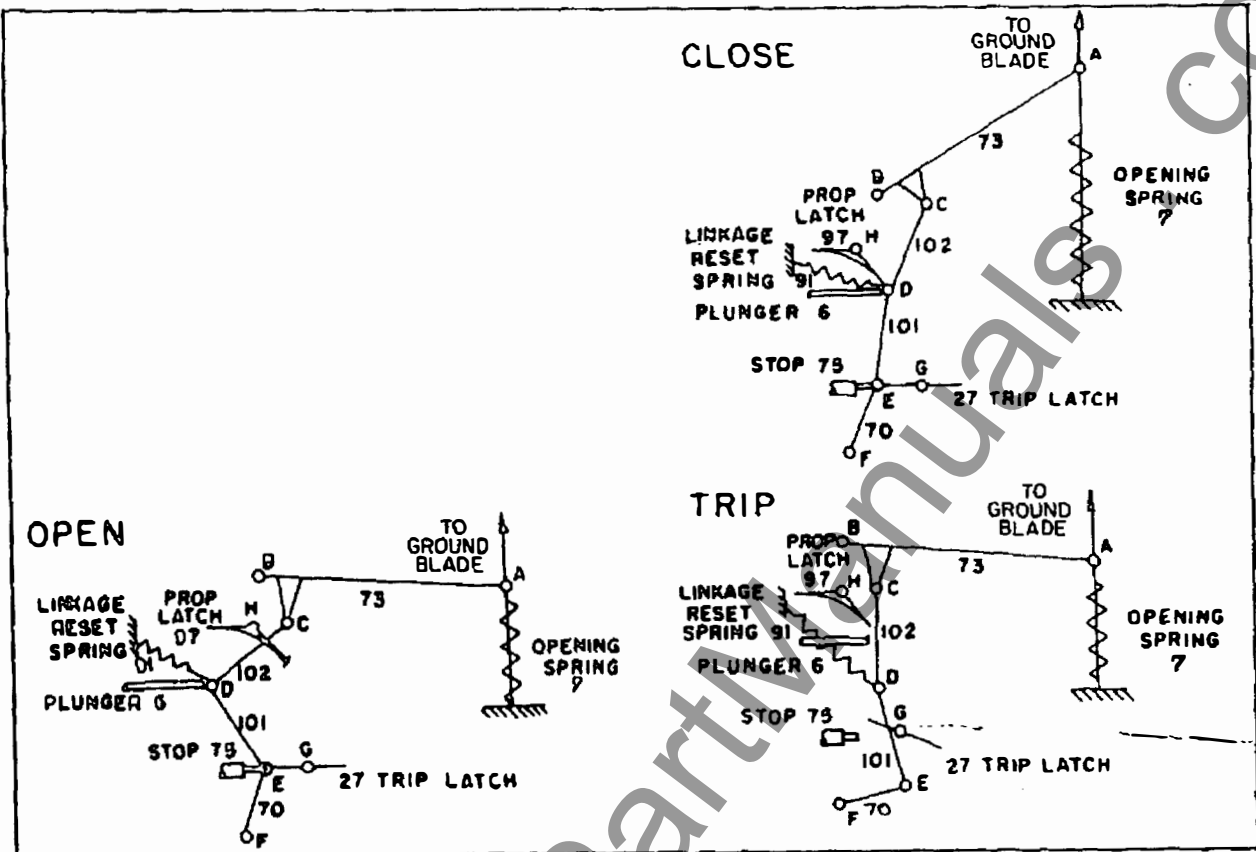

Fig. 6 - Four-bar linkage.
The 4-bar linkage (Fig. 6) consists of links (70, 101, 102 and 73). In normal closing operation, point E is held fixed between stop bolt (75) and trip latch
(27). When the closing solenoid is energized, plunger (6) moves forward to rotate link (101) about center E. This forces link (102) to move, rotating arm (73) about its fixed center B. The forward travel of point D carries it past prop latch (97) which holds point D as plunger (6) retracts. The rotation of arm (73) closes the grounding blades and extends the opening springs.